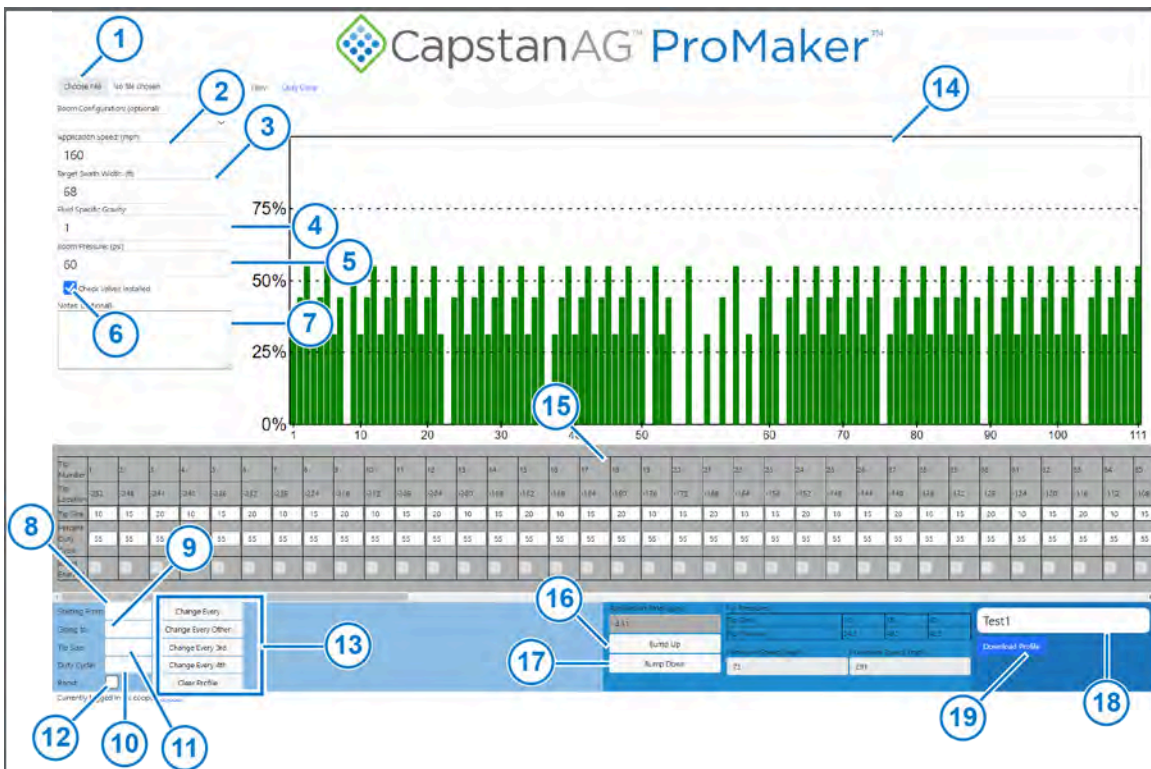

Figure 11: Change a Profile
3. Select **Choose File** (Figure 11, Item 1) and select the desired profile.
4. To change the application speed, click in the box (Figure 11, Item 21) below **Application Speed:** and enter the target ground speed at which the product will be applied.
5. To change the swath width, click in the box (Figure 11, Item 3) below **Target Swath Width:** and enter the target width of product application.
6. To change the fluid specific gravity, click in the box (Figure 11, Item 4) below **Fluid Specific Gravity:** and enter the information for the product you will apply.
7. To change the boom pressure, click on the box (Figure 11, Item 5) below **Boom Pressure:** and enter the target boom pressure for application.
8. If the boom uses CapstanAG check valves, make sure to put a check mark in the box (Figure 11, Item 6) next to **Check Valves Installed.**
9. If desired, click in the box (Figure 11, Item 7) below **Notes: (optional)** and enter any additional information you want to have with this profile.
- a) Click in the box (Figure 11, Item 8) next to **Starting From:** and enter the starting tip number.
- b) Click in the box (Figure 11, Item 9) next to **Going to:** and enter the ending tip number.
- c) Click in the box (Figure 11, Item 10) next to **Tip Size:** and enter the correct tip size.
- d) Click on the box (Figure 11, Item 11) next to **Duty Cycle:** and enter the value of the desired duty cycle.
- e) If you are using boost, make sure to put a check mark in the box (Figure 11, Item 12) next to **Boost.**
- f) Select which tips to change from the list (Figure 11, Item 13):
Information will be added to the bar graph (Figure 11, Item 14) and the tip information table (Figure 11, Item 15).
11. To change the application rate, select **Bump Up** (Figure 11, Item 16) or **Bump Down** (Figure 11, Item 17).
12. Click on the **Profile Name** box (Figure 11, Item 18) and enter the desired name of the profile.
13. Click **Save Profile** (Figure 11, Item 19).